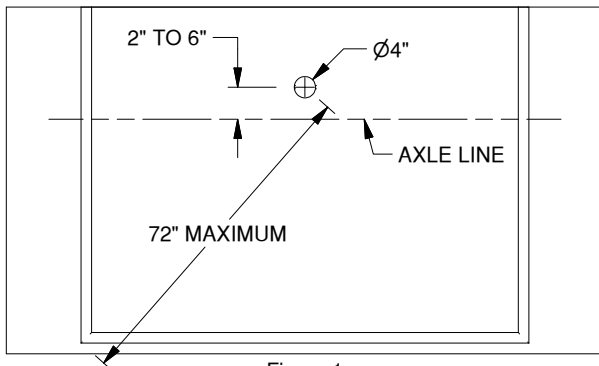

Figure 1
- 1. Drill the 4" hole.** To achieve proper turning clearance for most trailers, Mark the position of the receiver socket hole 2-6" forward of the axle. Do not exceed 72" from the center of the socket to the rear corner of the bed. Once the appropriate location is determined and marked, proceed to drill a 4" hole in the truck bed, see Figure 1.